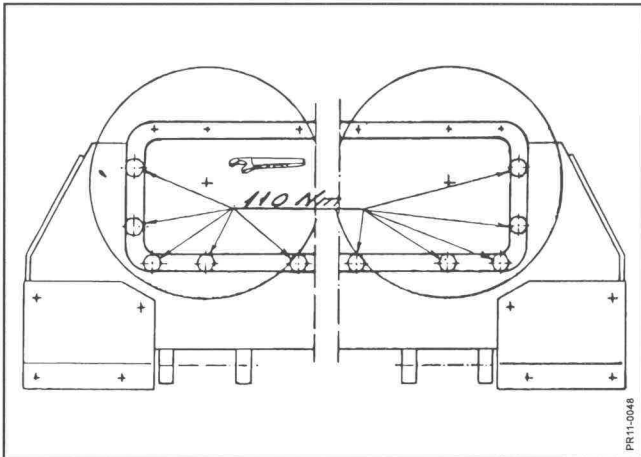

Fig. 6-4
- Fig. 6-4** To avoid damaging vibrations the cutter bar must be tightened very well. 110 Nm (11 Kpm). Check bolts at cutter bar ends are checked regularly.